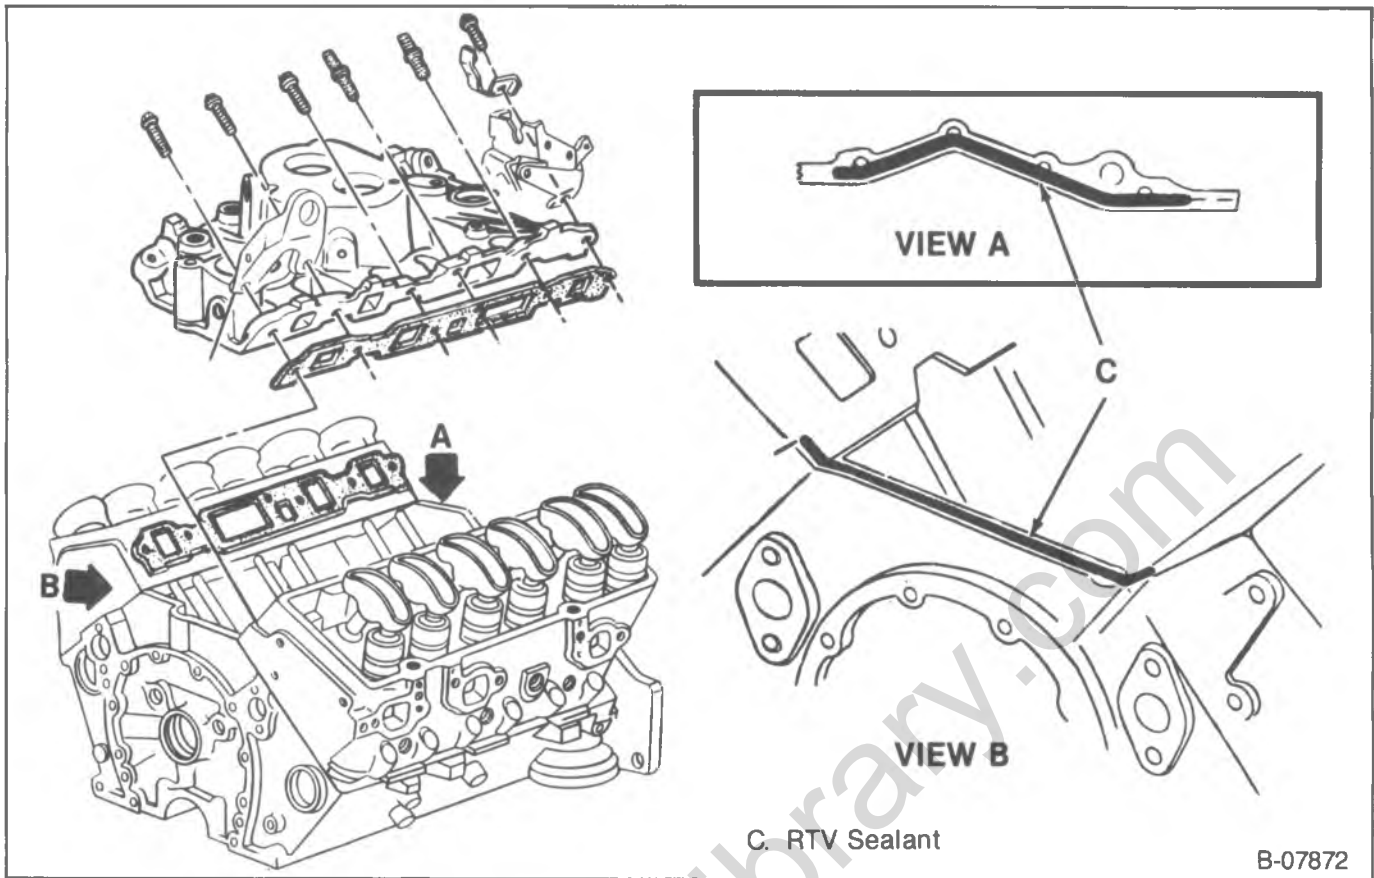

Figure 8—Intake Manifold
Install or Connect (Figures 8 and 9)
2. RTV to the front and rear sealing surfaces on the block (figure 8). Apply a 5 mm (3/16-inch) bead of RTV (part number 1052366 or equivalent) to the front and rear of the block as shown. Extend the bead 13 mm (1/2-inch) up each cylinder head to seal and retain the gaskets.